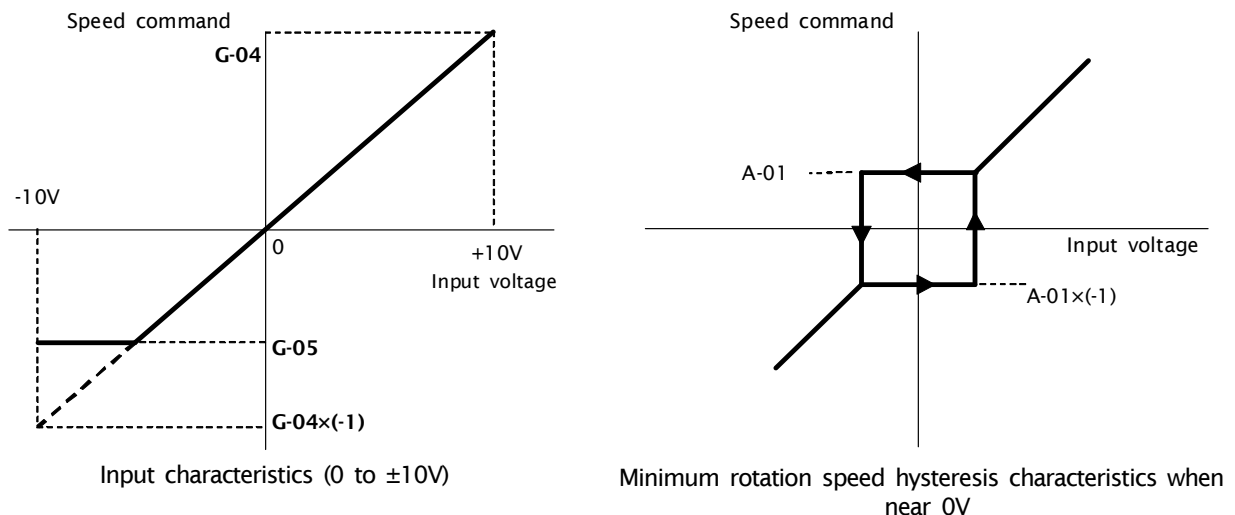

Figure 5.2 Speed command characteristics with voltage input of 0 to ±10V
The rotational direction can be reversed by setting the command input voltage to a negative value. The rotation speed command value is set as the Analog Input (2) rotation speed upper limit (G-04) when the input is +10V. When the input is -10V, it is set as the negative value of the Analog Input (2) rotation speed upper limit (G-04). However, it is possible to set a lower limit by setting the Analog Input (2) rotation speed lower limit (G-05). (Figure 5.2, left) If the minimum rotation speed (A-01) is other than "0", the rotation speed command absolute value is controlled to prevent falling below the minimum speed. In this case, when the command input voltage is around the 0V range, its behavior shows hysteresis characteristics (It will run forward if started in the forward direction and will run in the minimum reverse speed if started in the reverse direction) as shown in the right side of Figure 5.2.